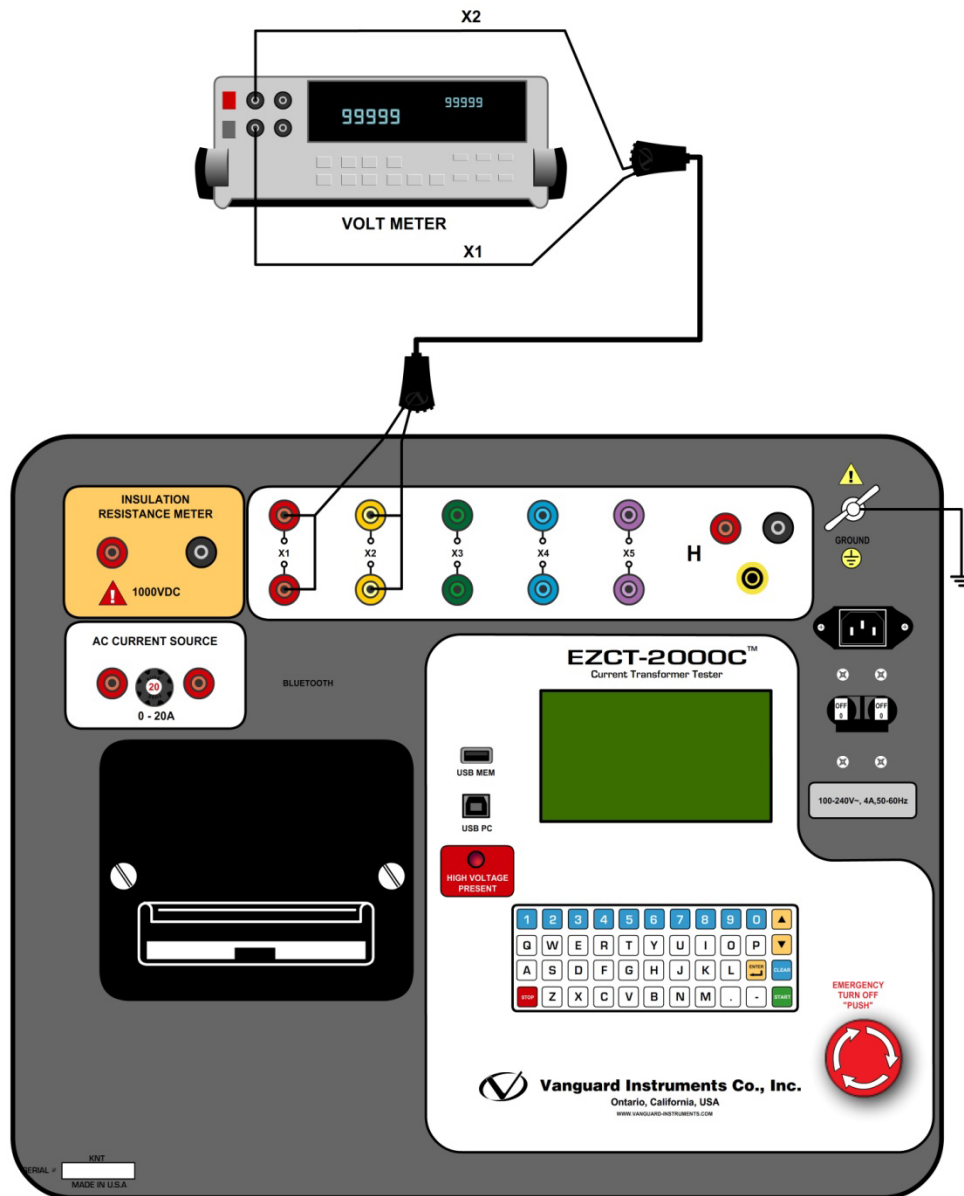

Figure 26. EZCT-2000C V_x Verification Test Connections
- Connect the X cables to an RMS volt meter as shown in Figure 26.